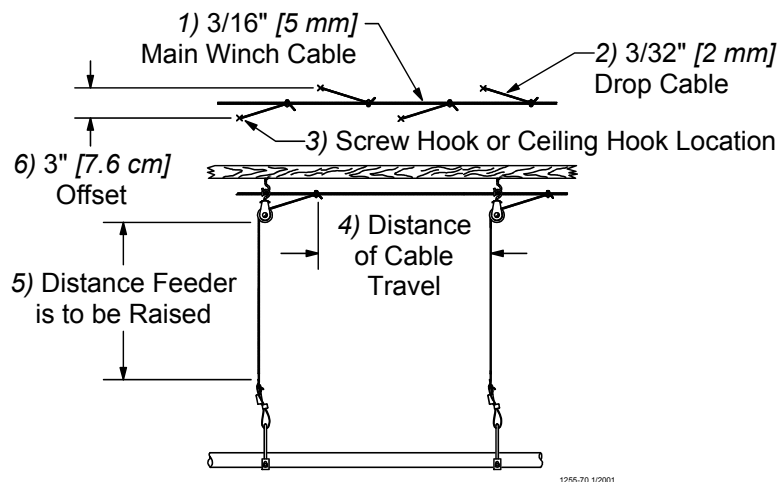

Figure 13. Drop Line Off Set Detail
2. If the distance raised is greater than the distance between the drop spacings, offset the hooks 3" [7.6 cm] to each side of the line to prevent the cable clamps from catching the pulleys, see **figure 13**.